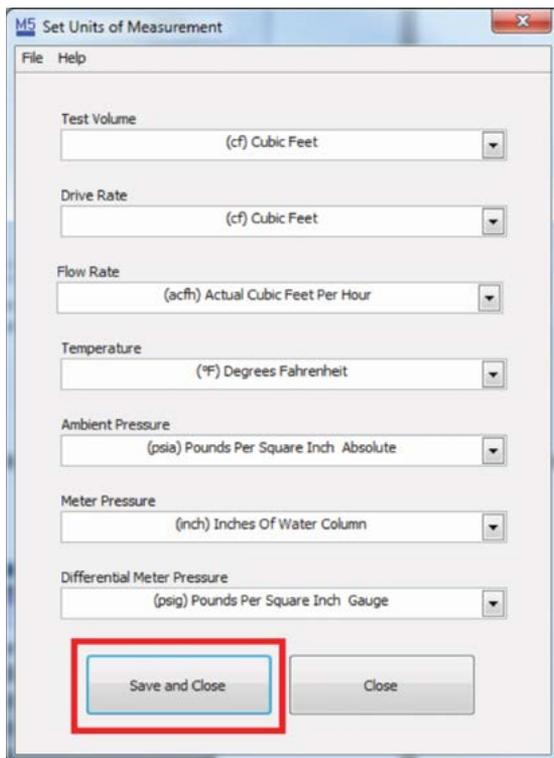

Figure 118: Save and Close
- Click on the "Save and Close" button as shown in **Figure 118**. There will be a prompt to confirm the selection.